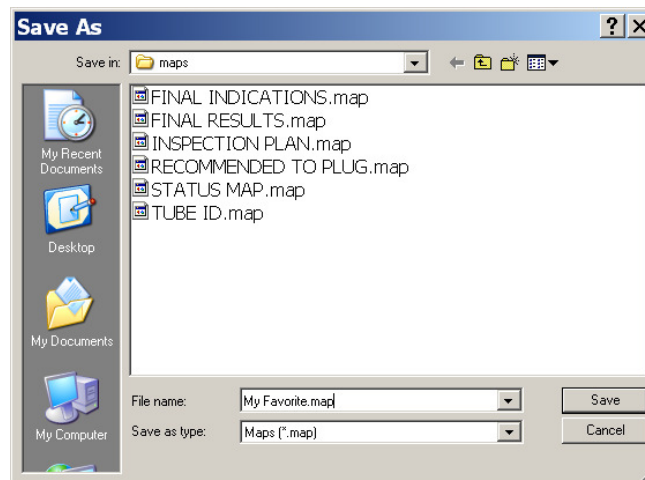

Figure 8. File | Save Map As Dialog
- **File | Save Map** (Ctrl+S) automatically saves the currently displayed *map* to the **[project] \maps** directory using the same filename. If **File | Save Map** is selected for a *map* that has not been previously saved, a **Save As** dialog like the one shown in Figure 8 is displayed and the instructions below for **File | Save Map As** apply. Once saved, a message in the **Status Bar** is displayed informing the user that the *map* was saved to **[project] \maps \ [map\_filename .map]**.
- **File | Save Map As** displays the typical **Save As** dialog shown in Figure 8. Type the desired name for the *map* file in the **File name:** field. There is no need to add the *.map* extension to the name since the program will add it automatically. Once saved, a message in the **Status Bar** is displayed informing the user that the *map* was saved to **[project] \maps \ [map\_filename .map]**.